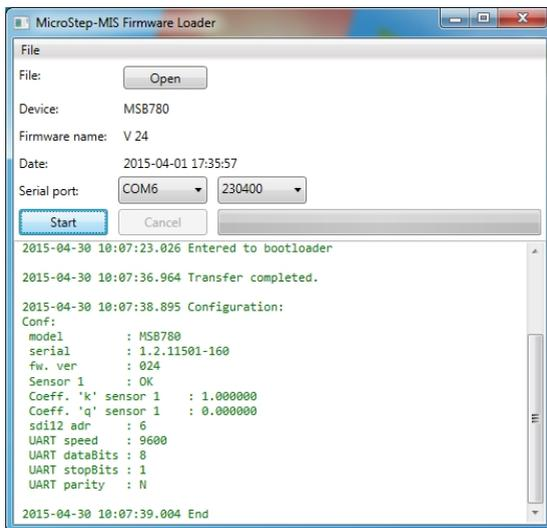

Figure 13: Listing information after successful transfer of firmware
7. After successful transfer of firmware the Configuration is printed. New firmware version number is also displayed (fw. ver). See Figure 13.